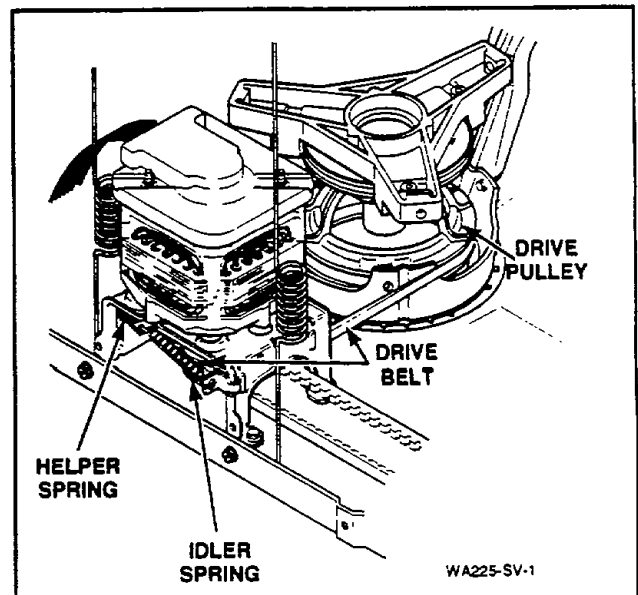

Figure 29
- While holding the idler lever, reach in and around the right side of the motor and run the belt off the right side of the large drive pulley, *Figure 29*.